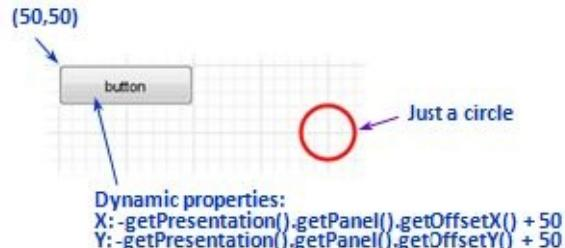

Figure 13.10 This button will always stay at (50,50) relative to the model window
1. Create the following four objects as shown in Figure 13.10: a slider, a variable, a button and a rounded rectangle.